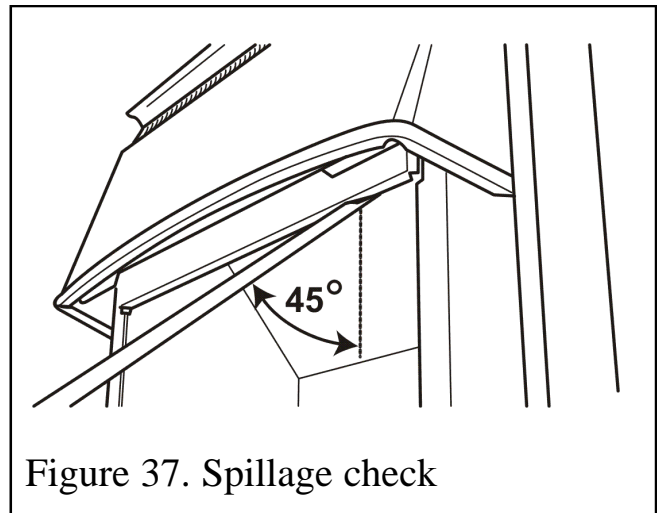

Figure 37. Spillage check
4. Place the smoke match tube into the convection box at the right hand side and immediately below the black top cross member. Angle it at approximately 45° to the horizontal. Insert the tube so that the neck of its flared end touches the inside surface of the edge of the cross member (See figure 37).